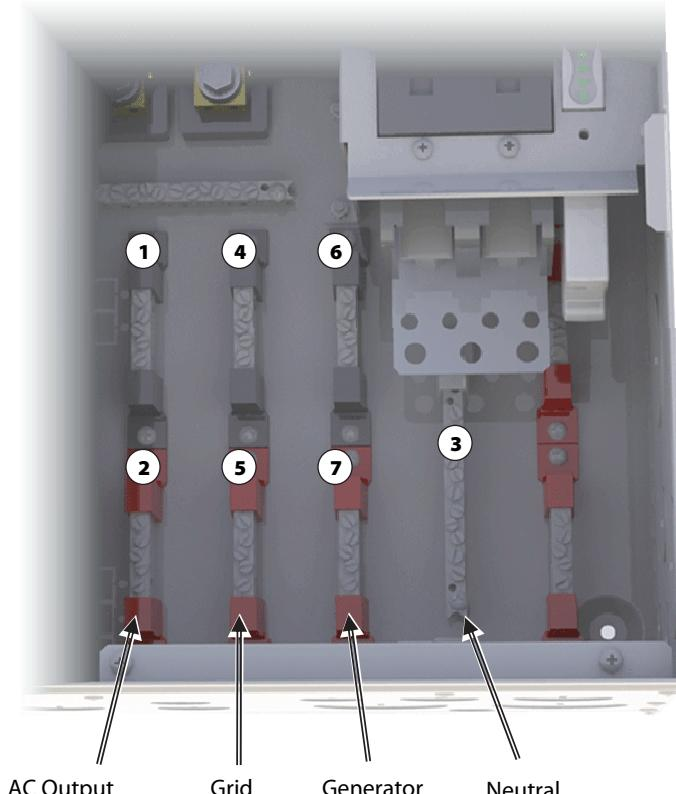

Figure 30 AC Terminal Bus Bars (split-phase)
If the GSLC has no bypass assembly, wiring connections should be made directly to each TBB from the Radian inverter, AC sources, and loads. These connections are designated in Figure 30.
1. Designate the top AC circuit breaker as the inverter AC output disconnect. Install a wire from the black AC output TBB (as shown in Figure 30) to the disconnect marked by **1**.
4. Designate the third AC circuit breaker from the top as the disconnect for one AC source (**GRID** or **GEN**). Install a wire from the black source circuit TBB (as shown in Figure 30) to the disconnect marked by **5**.
8. Install a wire on the inverter's **NEU** terminal and connect it to the GSLC's neutral TBB (as shown in Figure 30). *Only one neutral connection is required.*